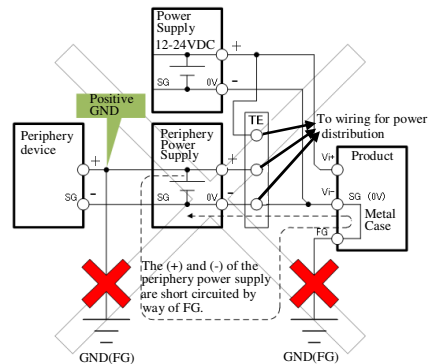

Figure 2.7. Example in which the periphery power supply is short circuited
- As shown in Figure 2.7, never connect the negative electrode (Vi-) terminal of this product to the negative electrode of a peripheral device whose peripheral power supply has been positive grounded. Doing so may cause malfunction, heat generation, faults, or damage.